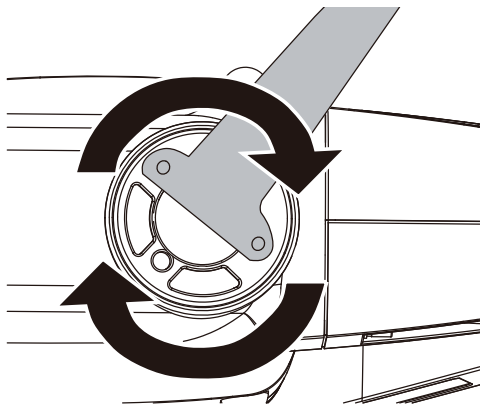

Figure 9
6. LUBRICATION OF THE POWER TOOL (SEE FIG. 9)